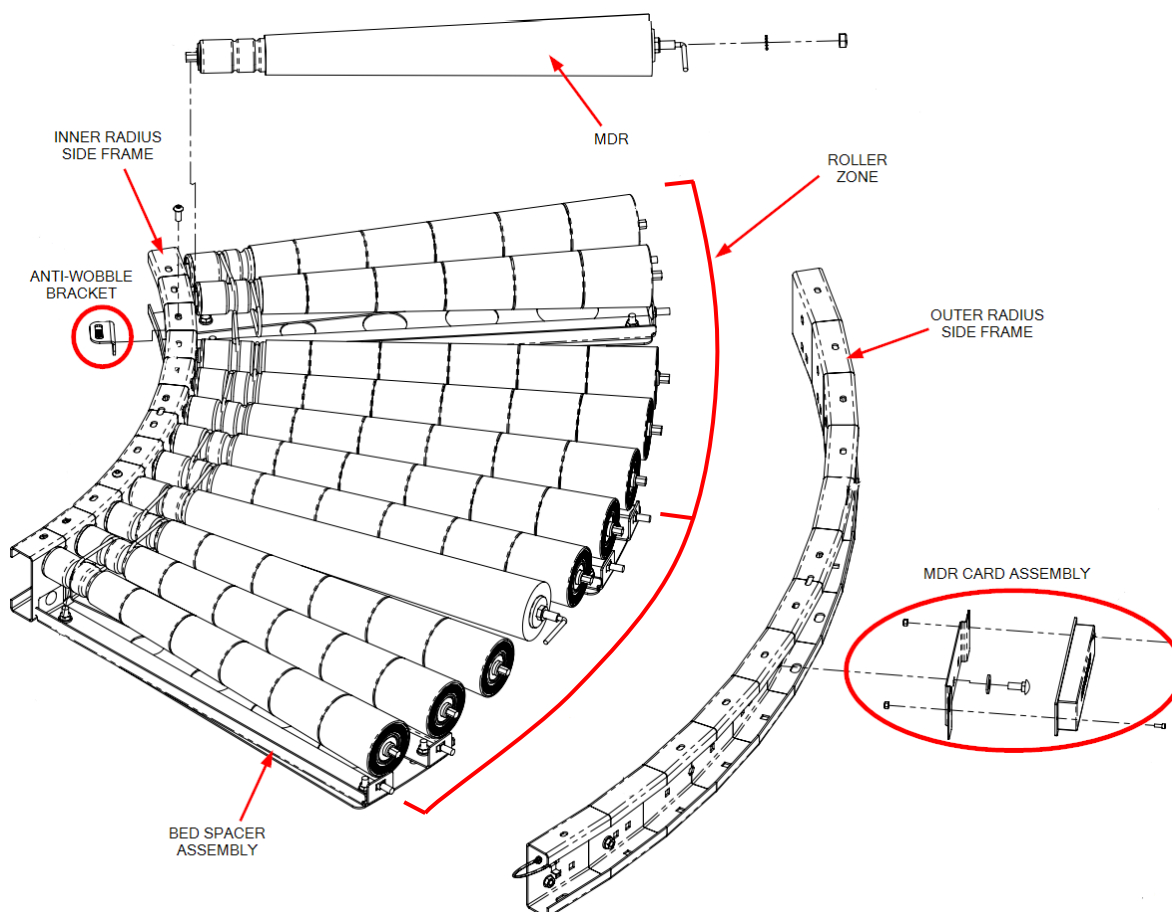

Figure 1: RLCDC General Arrangement Exploded View
The model shown in Figure 1 serves as a reference to become familiar with the components and terminology used in this manual. These terms will be used throughout the manual and are common among many of the other Bastian Solutions’ conveyor product lines.
The model in Figure 1 shows a 60°, 2-groove RLCDC bed section. All RLCDC model formats have the same roller centers on the inner radius side frame. Outer radius side frame roller center varies with the OAW of the curve. Each zone pictured is made up of (5) or (6) rollers and (1) MDR. The rollers and MDRs
each have two grooves that allow them to be banded together with O-rings. Each MDR needs to be connected to a control card. The model shown in Figure 1 contains a dual zone card. These can be used to control two zones simultaneously. While this is a standard configuration, another common configuration is one zone per card. Depending on the RLCDC model, the MDR may be mounted as shown or may be mounted below the tapered rollers.